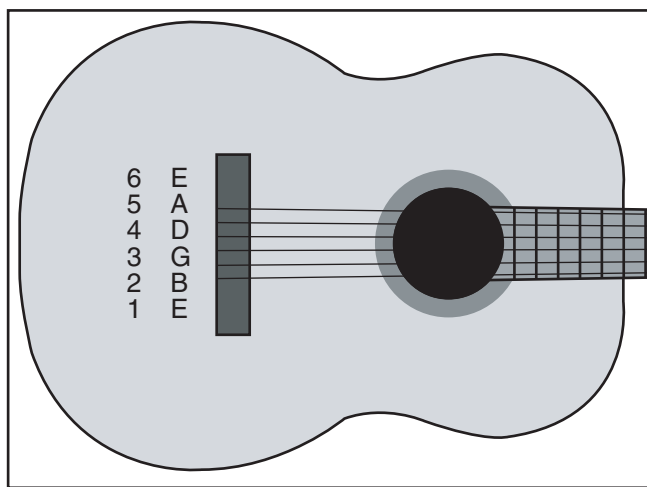

Figure 16. Winding the strings.
- The goal when tuning is to make the strings in tune with one another. Standard tuning is shown in **Figure 16**.